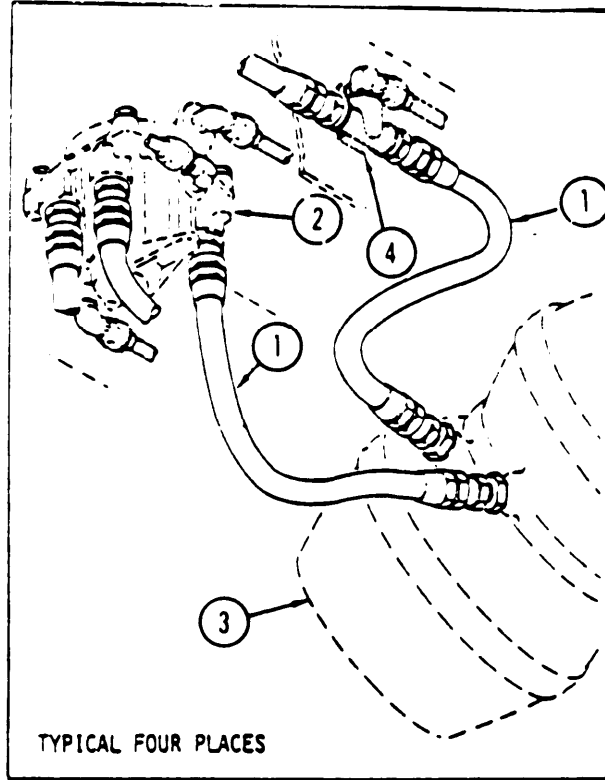

Figure 2-27. Trailer Air Brake Hose Assemblies (ARMY)
a. Removal. (Figure 2-27) Disconnect air brake hose assemblies (1) from relay valve (2), air chamber assemblies (3), and anchor tees (4).
e. Inspection. (Figure 2-27) Attach hose assemblies (1) to relay valve (2), air chamber assemblies (3), and anchor tees (4) as indicated in (figure 2-27).